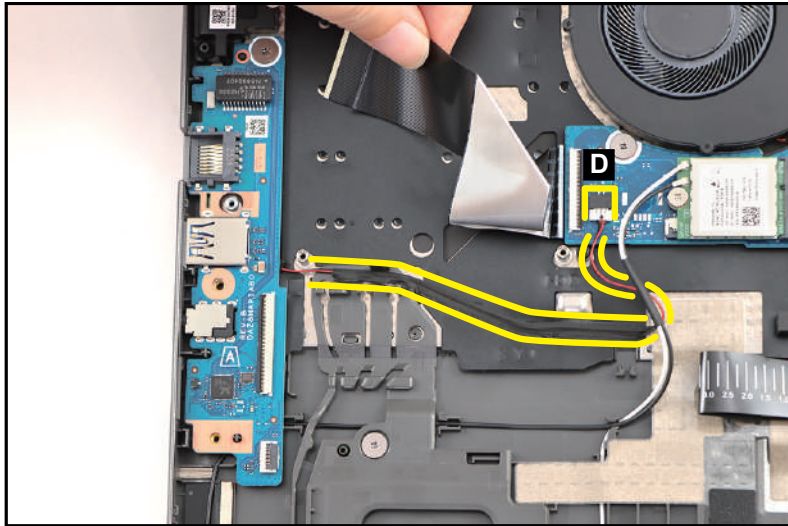

Figure 3-159. Replacing the Smart Card Holder
3. Route and attach the right speaker cable onto its routing channel. Then connect the right speaker cable to the mainboard connector (D) (Figure 3-159).